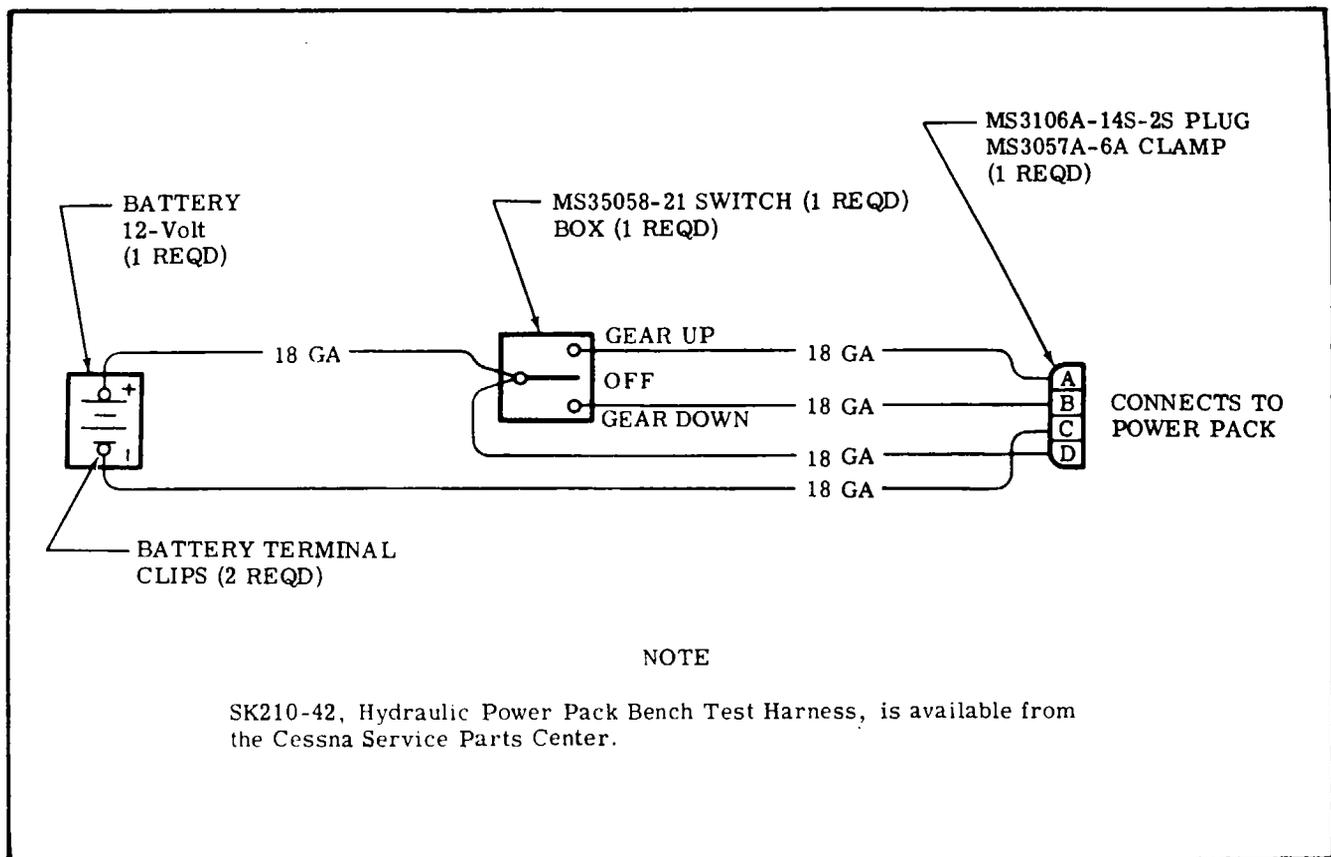

Figure 5-36. Power Pack Bench Test Harness Schematic Diagram
5-182. BENCH-TESTING THE DOOR SOLENOID VALVE. (Refer to figure 5-36.)
- b. Connect Test Harness as shown in figure 5-36.